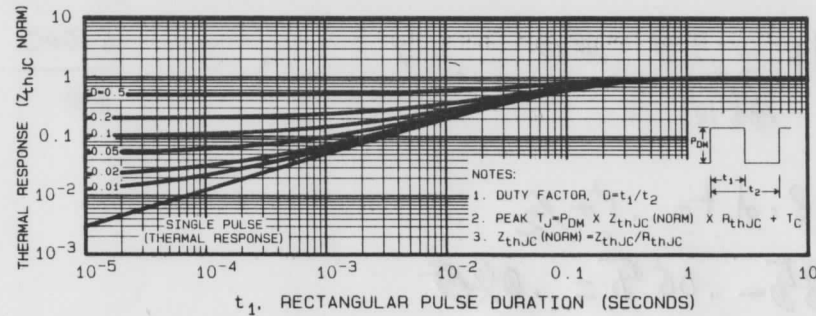

Fig. 5 - Maximum Effective Transient Thermal Impedance, Junction-to Case Vs. Pulse Duration
① $T_J = 25^\circ\text{C}$ to 150°C
② Repetitive Rating: Pulse width limited by max. junction temperature. See Transient Thermal Impedance Curve (Fig. 5).
③ $V_{DD} = 25\text{V}$, $T_J = 25^\circ\text{C}$, $L = 100\mu\text{H}$, $R_G = 25\Omega$
④ Pulse Test: Pulse width $\leq 300\mu\text{s}$, Duty Cycle $\leq 2\%$.
⑤ I_D current limited by pin diameter
⑥ $K/W = ^\circ\text{C}/W$